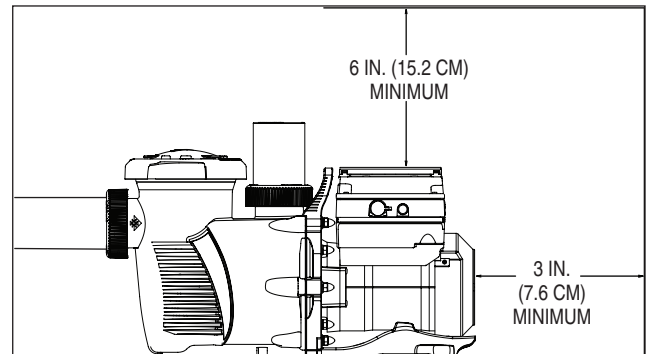

Figure 1: Pump Rear and Vertical Clearance
6. Install the pump with a rear clearance of at least 3-inches (76.2 mm) so that the motor can be removed easily for maintenance and repair. See **Figure 1**.